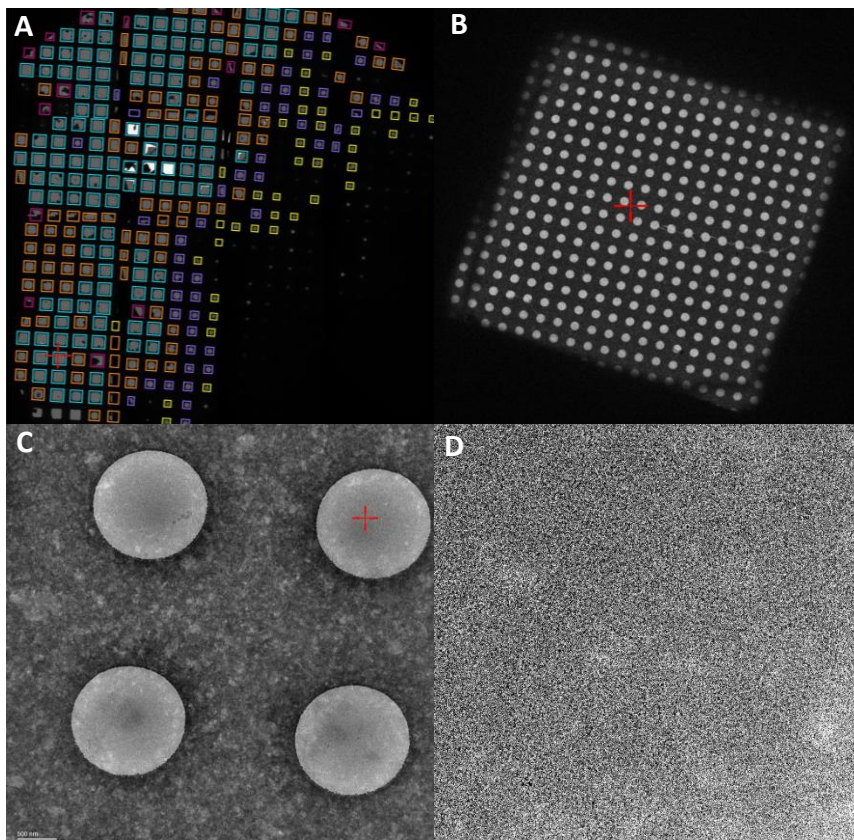

Figure 1. Cryo-EM grid preparation. Sample images of the assembled IC on UltraAuFoil R1.2/1.3 gold grids. Images depicted the same as in Figure 1.
Figure 1. Cryo-EM grid preparation. Sample images of the assembled IC on Quantifoil R1.2/1.3 Copper grids using the Atlas (A), Grid Square (B), Foil hole (C) and Data Acquisition (D) presets captured in EPU cryo-EM imaging software.